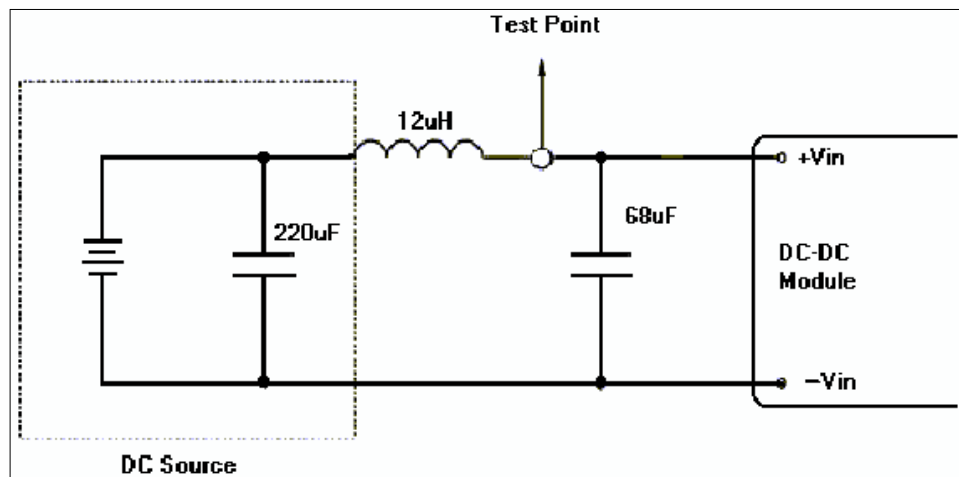

Figure 2. Measure input inrush current with a simulated source inductance of 12 µH and input bulk capacitor of 68 µF.
3. See Figure 2 for the Inrush Current Test Setup. Input capacitor with 68uF/450Vmin must always be added.